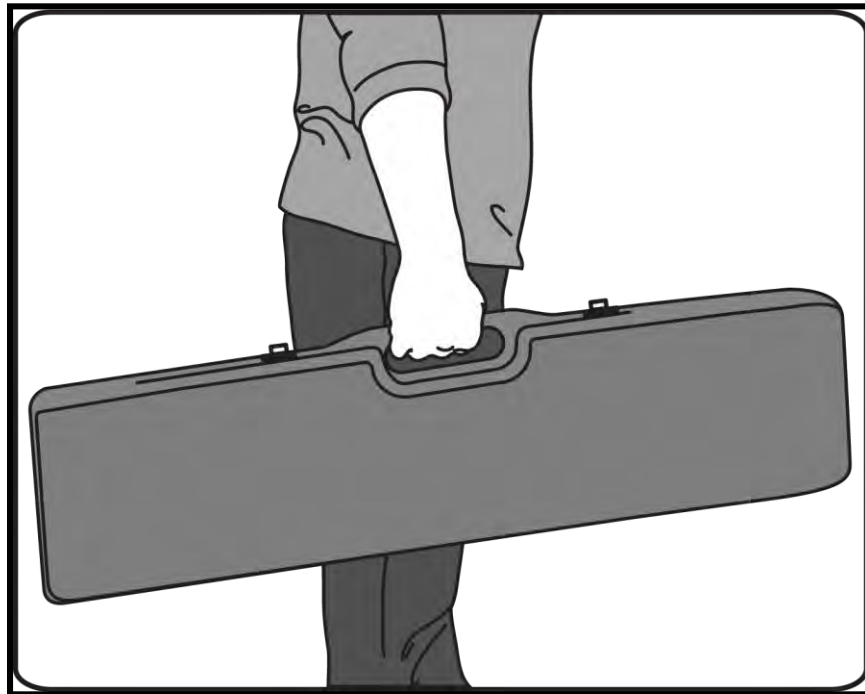

Figure 85. Lockable Carrying/Storage Case
- a. Before obtaining a firearm, think about how you will carry it home and where you will keep it. Remember, when you leave the seller or dealer's shop, you will be carrying your firearm in a public place. It is recommended that all firearms be carried in a case or opaque container to avoid display in public (Figure 85). Consult your local authorities for details.